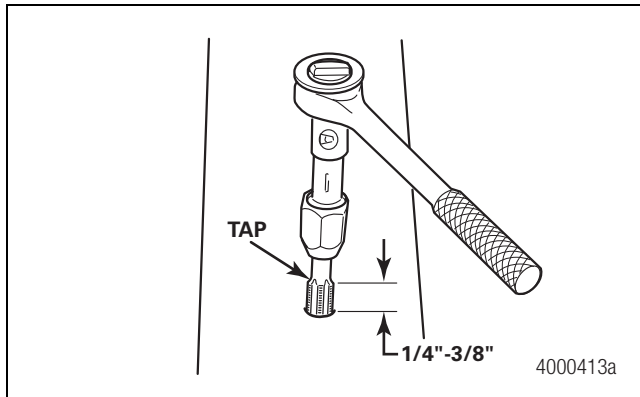

Figure 2.3
5. Use tapping fluid and a 1/8-27 inch NPT tap to thread the drilled hole STRAIGHT into the axle. Do not run the tap completely through the hole. Leave 1/4- to 3/8-inch of the tap threads exposed. Figure 2.3.